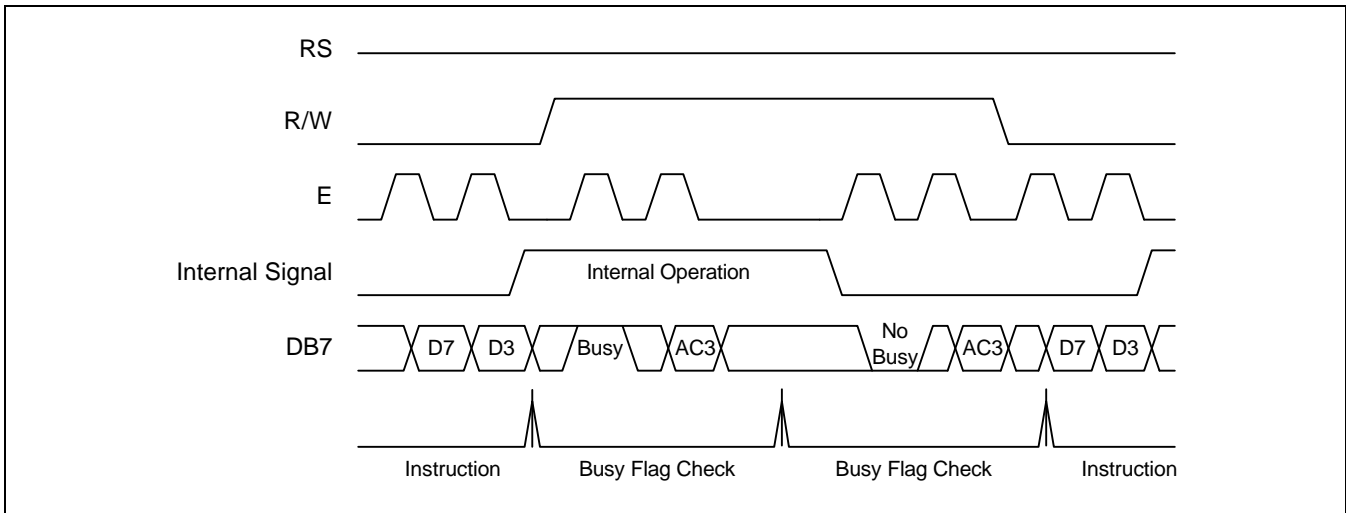

Figure 12. Example of 4-bit Bus Mode Timing Sequence
When IM port input is "Low", serial interface mode is started. At this time, all three ports, SCLK (synchronizing transfer clock), SID (serial input data), and SOD (serial output data), are used. If you want to use S6A0078 with other chips, chip select port (CS) can be used. By setting CS to "Low", S6A0078 can receive SCLK input. If CS is set to "High", S6A0078 reset the internal transfer counter. Before transfer real data, start byte has to be transferred. It is composed of succeeding 5 "High" bits, read write control bit (R/W), register selection bit (RS), and end bit that indicates the end of start byte. Whenever succeeding 5 "High" bits are detected by S6A0078, it makes serial transfer counter reset and ready to receive next information. The next input data are register selection bit that determine which register will be used, and read write control bit that determine the direction of data. Then end bit is transferred, which must have "Low" value to show the end of start byte. (refer to Figure 11. Figure 12)